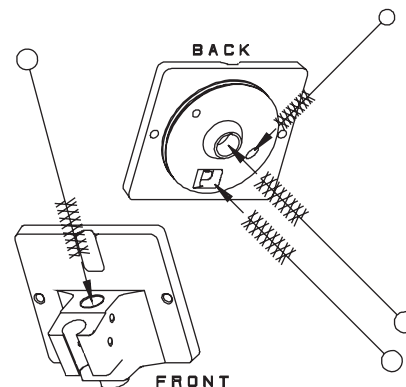

Figure 6-5
- a. The head assembly, o-ring grooves, plunger, all ports and openings as shown in figure 6-5.